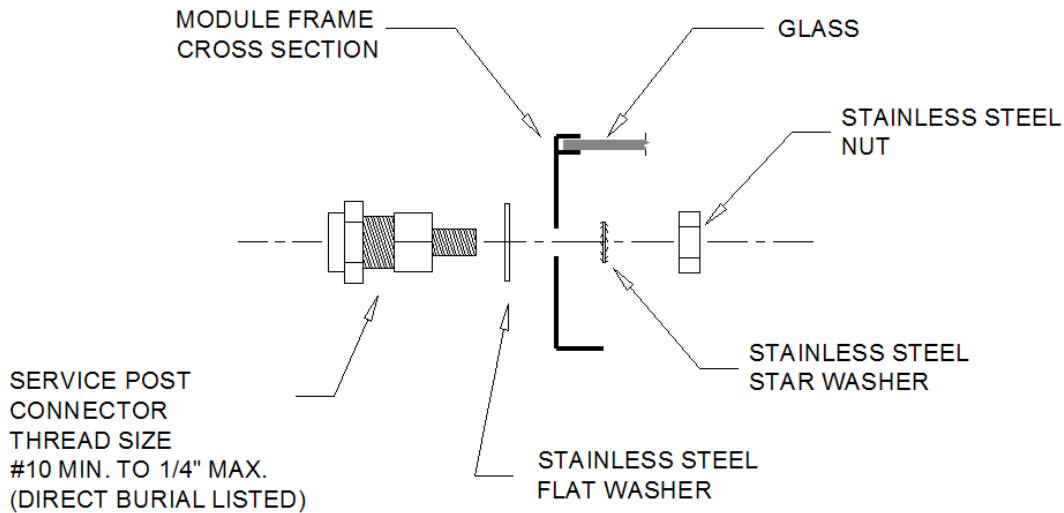

Figure 6 – Mounting a Service Post Connector
1. You may mount a service post connector such as the one shown in the illustration. Be sure to use a service post connector that is UL listed for direct burial. You will also need SS hardware – a flat washer, a star washer and nut – to complete this assembly. See Figure 6 for an illustration of this assembly.